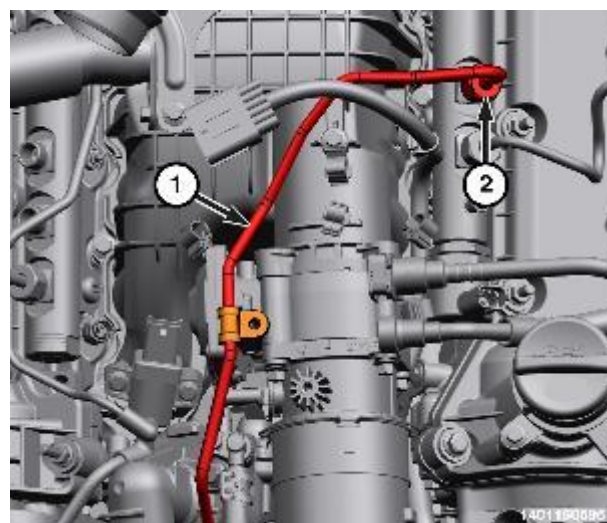

Figure 163 – Tube Union Nut
29. Unscrew the union nut (2) and remove the fuel tube (1) and then discard the fuel tube (Figure 163).